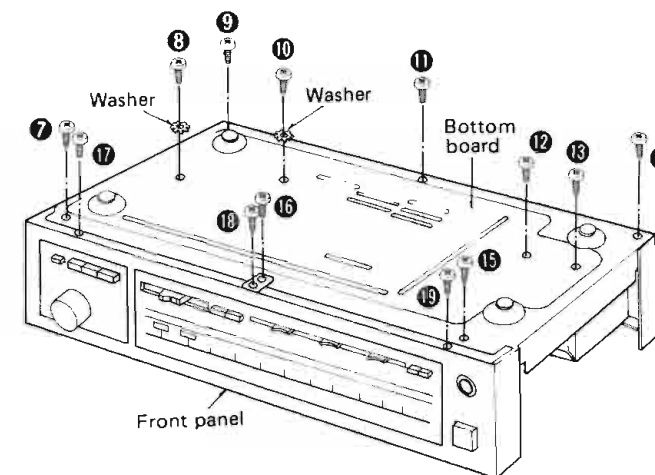

Fig. 2
2. Remove the 10 setscrews (Fig. 2: ⑦~⑯) of the bottom board.
2. Remove the 3 setscrews (Fig. 2: ⑰~⑱) of the front panel.